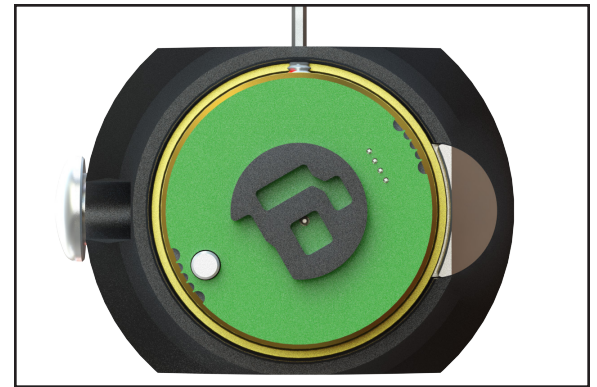

Figure 6: Align Circuit Board and Knob
10. Make sure the circuit board is concentrically aligned with the knob body before reinstalling the cap. See Figure 6.